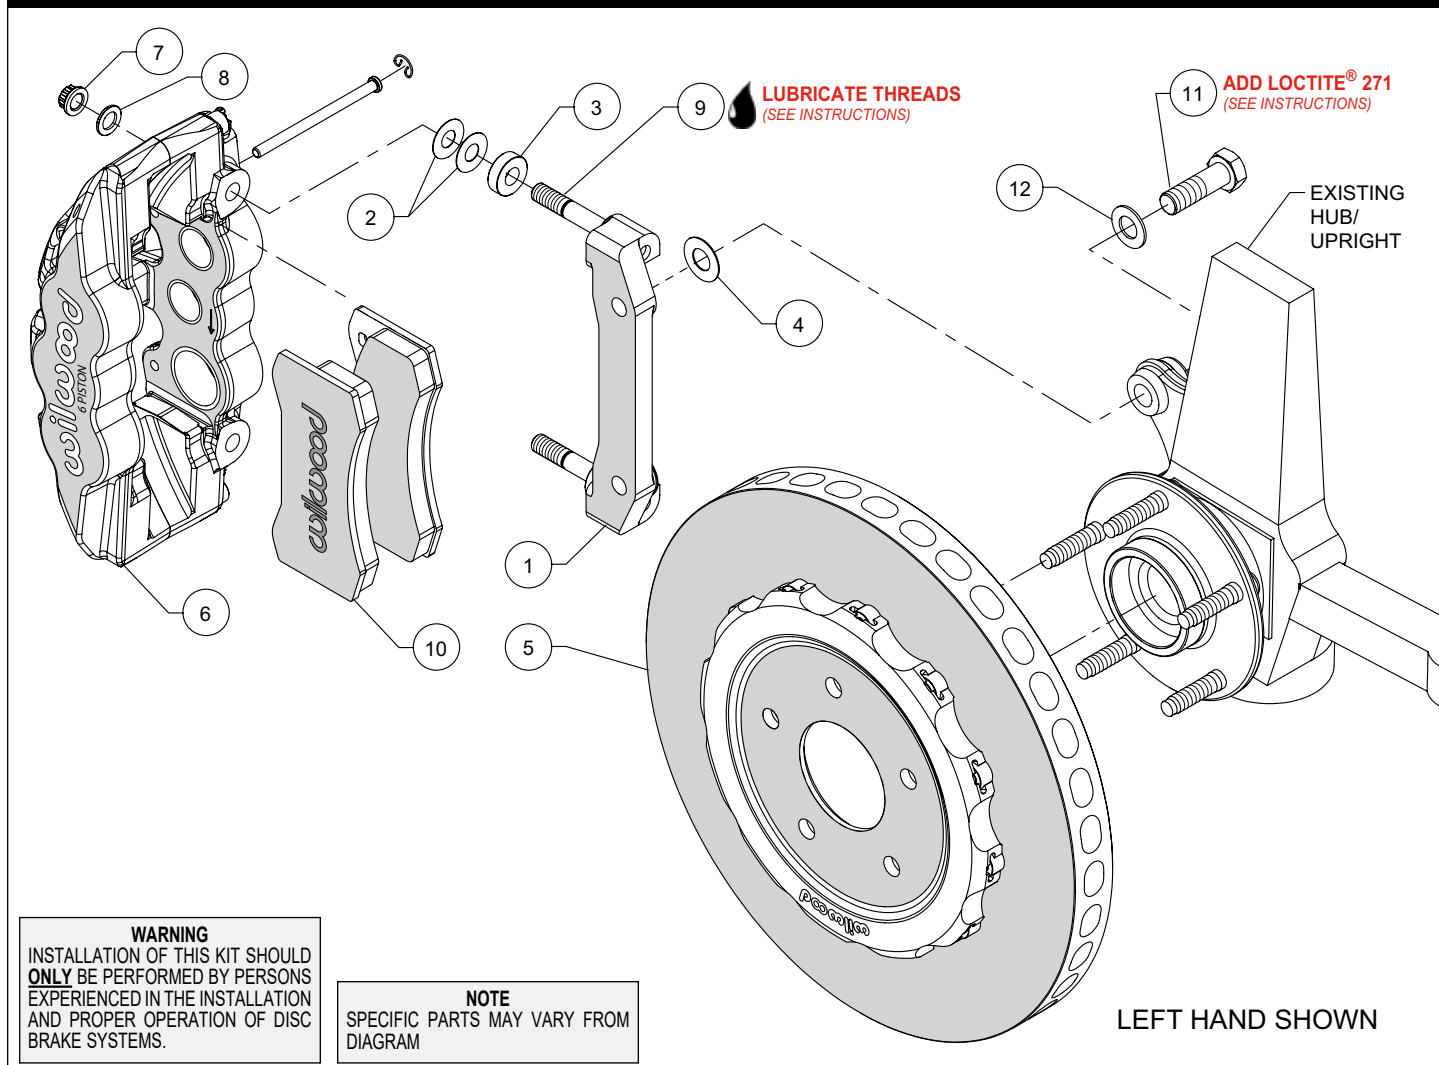

Figure 1. Typical Installation Configuration
NOTE: Numbers in parenthesis refer to the parts list and Figure 1 on the preceding pages.
- The caliper mount bracket (1) should initially be installed with clean, dry threads on the mounting bolts. Orient the bracket as shown in Figure 1 and Photo 1, and install bolts (11) and washers (12). Initially place one .029 thick shim (4) on each bolt between the bracket and upright, Figure 1. Temporarily tighten the mounting bolts. **NOTE:** The bracket must fit squarely against the mount bosses on the upright. Inspect for interference from casting irregularities, machining ridges, burrs, etc. Later, after the caliper alignment has been checked, the mount bolts will be secured using red *Loctite*® 271.
- NOTE:** This kit contains distinct right and left hand calipers that must be mounted in a specific direction, as described below. Lubricate the caliper mounting studs (9) with lightweight oil. Initially place two .016" thick shims (2) and spacer (3) on each stud as shown in Figure 1 and Photo 2. Mount the caliper (6) onto the bracket (1) using lock nuts (7) and washers (8), Figure 1. Ensure that the caliper is mounted so that the largest pistons are at the rotor exit end of the caliper, in relation to the direction of rotor rotation. Temporarily tighten the lock nuts and view the rotor through the top opening of the caliper. The rotor should be centered in the caliper, Photo 3. If not, adjust by adding or subtracting shims (4) between the bracket and the upright. Always use the same amount of shims on each of the two mounting bolts. Once the caliper alignment is correct, remove the bracket mounting bolts (11) one at a time, apply red *Loctite*® 271 to the threads, and torque to 105 ft-lb.
- Remove the two pad retaining pins from the caliper by carefully popping out the pin retaining clips and sliding out the pins. Insert the brake pads (10) into the caliper from the bottom, Figure 1 and Photo 4, with the friction material facing the rotor and secure the brake pads in place with the pad retaining pins and clips, Photo 5. Reinstall the caliper onto the caliper mounting bracket and temporarily tighten the lock nuts. Check that the top of the brake pad is flush with the outside diameter of the rotor, Photo 6. If not, adjust by adding or subtracting shims (2) between the caliper and the bracket. After the caliper pad height is set, torque the caliper lock nuts (7) to 47 ft-lb.